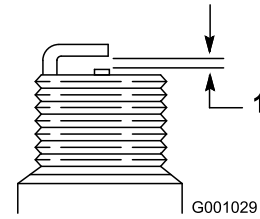

Figure 46
- Set the gap between the electrodes on a new spark plug at 0.76 mm (0.030 inch) as shown in Figure 46.